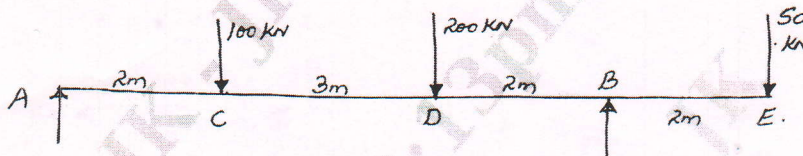

Fig.Q.10(b)
b. Determine the slopes at A and B, deflections at C, D and E in the beam shown in Fig.Q.10(b) in terms of EI. (12 Marks)